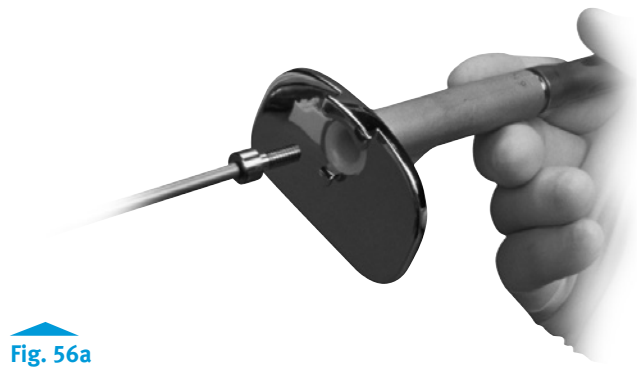

Fig. 56a
- Insert the Locking Screw into the tibial plate and tighten it with the screwdriver to secure the stem extension (Fig. 56a).